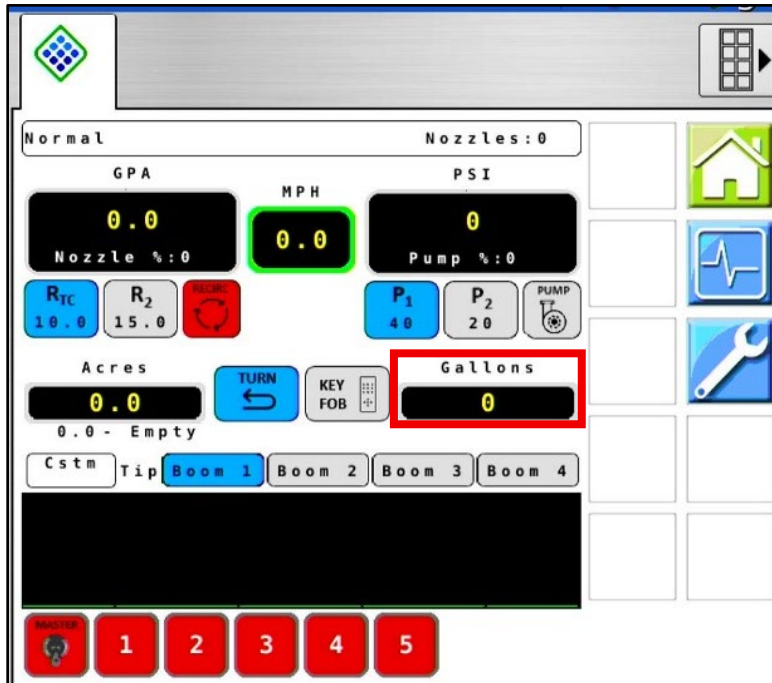

Figure 25 – PinPoint III Home Screen
44. **Figure 25:** Once system is restarted from previous step, tap the **Gallons** text input area to open the **Tank Meter** popup.